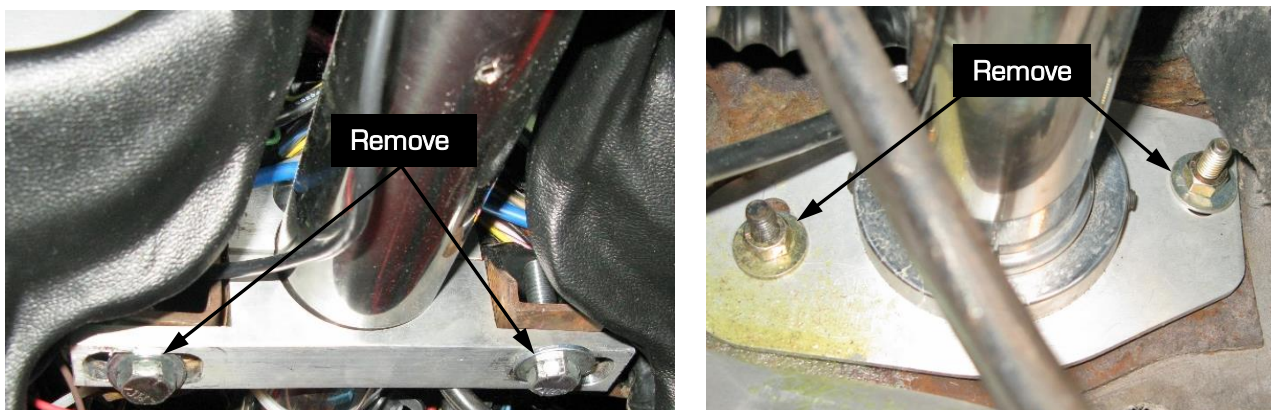

Figure 21 – Remove Steering Column Hardware
24. Remove the 2 bolts holding the steering column to the support brace, Remove the 2 carriage bolts from the lower part of the column (Figure 21). **NOTE:** The steering column used in the pictures below is from an aftermarket column.